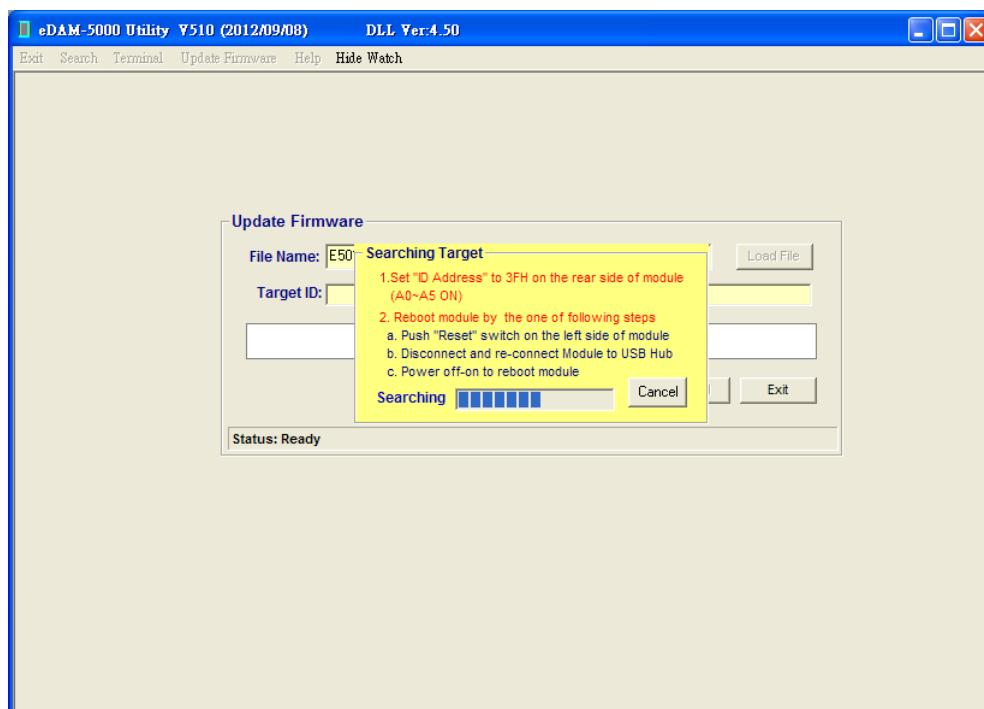

Figure -8
8. The Utility is searching module. Power-off /on the module or press “Reset button” at the down side of the module to reboot the module. (see Figure -8)